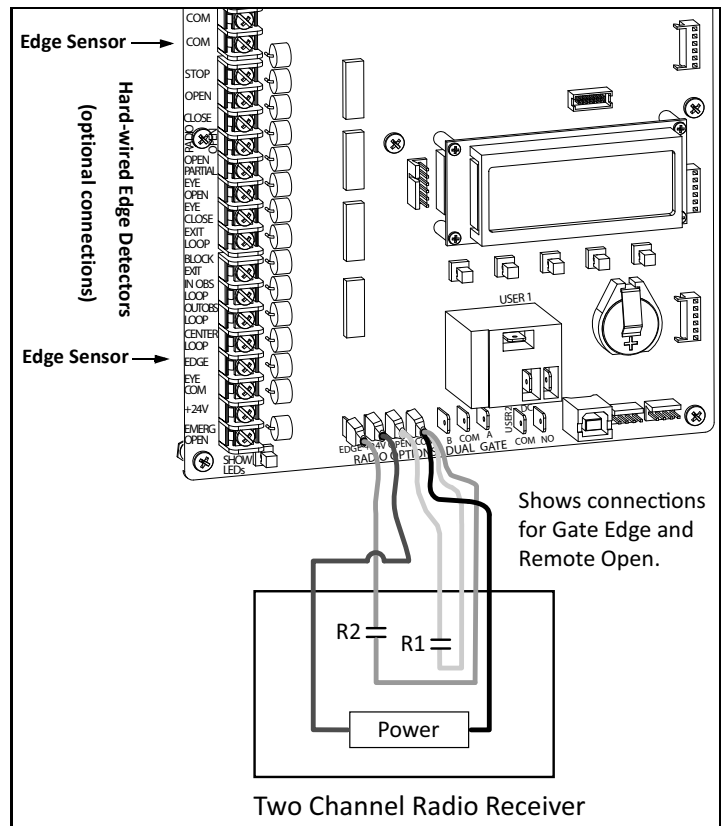

Figure 6-13.
- The preferred receiver connections are shown in Figure 6-13. An optional method is to connect one edge sensor lead to a COM terminal at the top, left side of the Smart DC Controller, and the other lead to the EDGE terminal, at the bottom, left side of the controller.
- Connect the edges to the terminals in the edge transmitter and set the “dip” switches of the transmitter to match the setting in the receiver to be used. Refer to Figure 6-13.